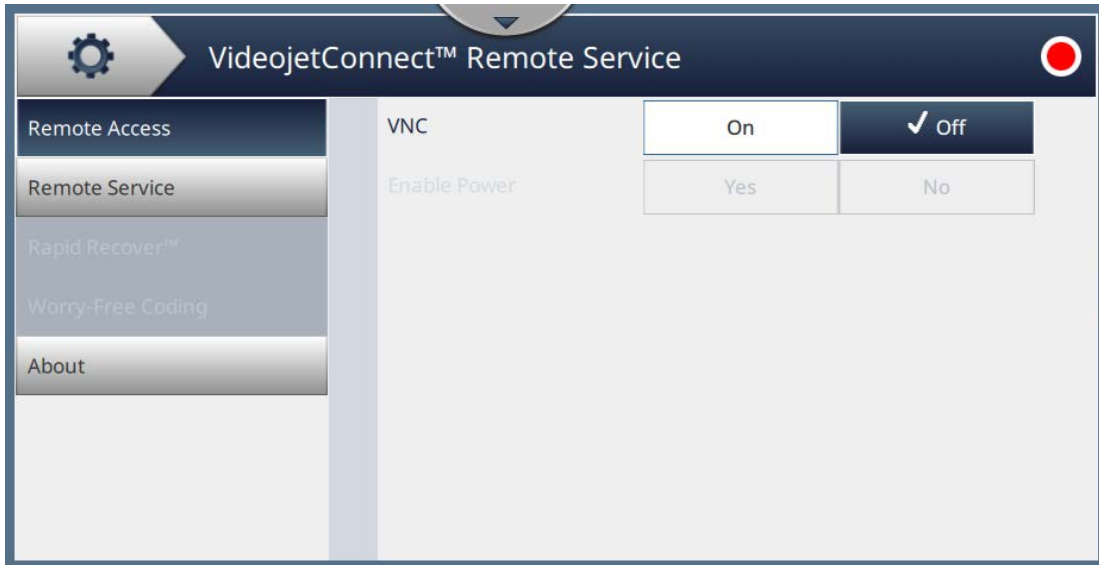

Figure 6-26: VideojetConnect™ Remote Service Screen
1. Touch the  button from the Tools screen. The VideojetConnect™ Remote Service screen opens as shown in the Figure 6-26.